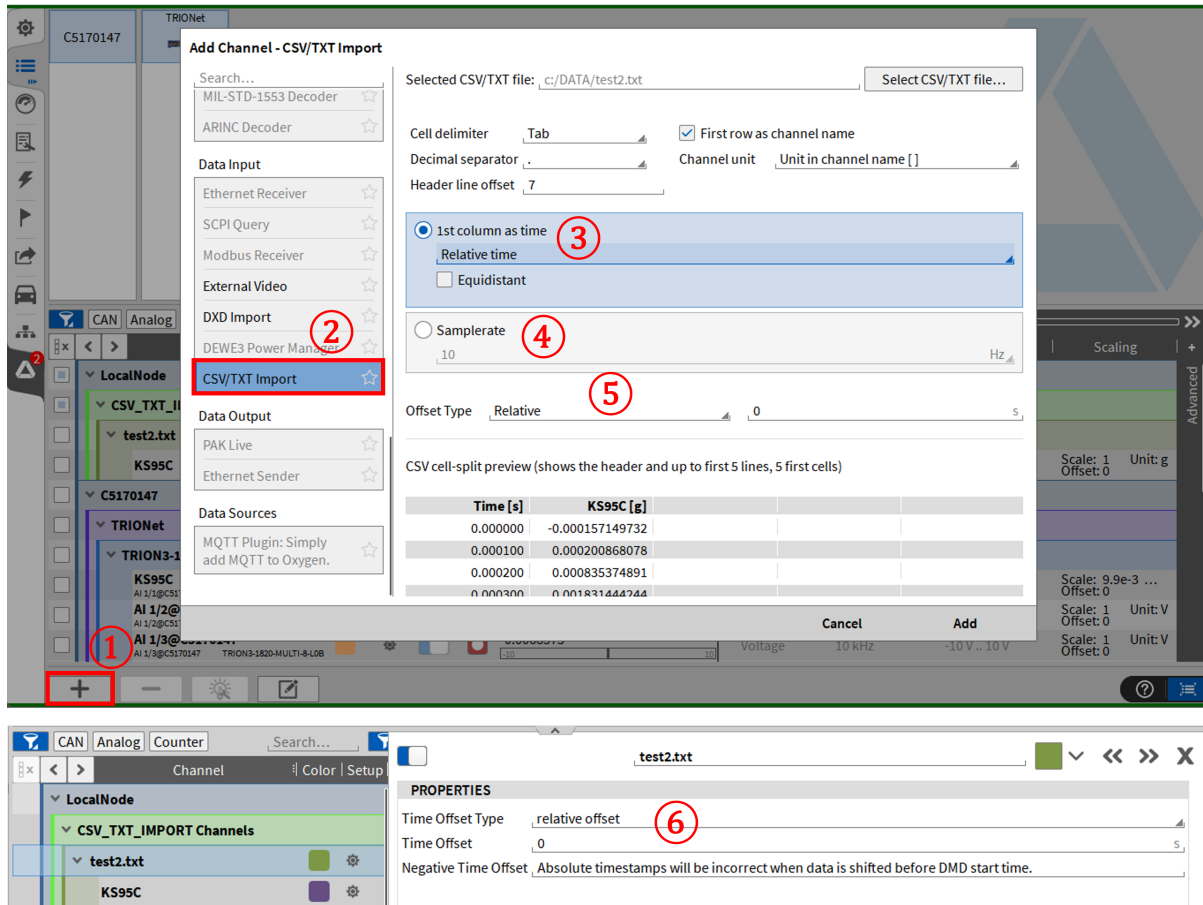

Fig. 7.168: CSV import
In OXYGEN Viewer it is possible to import CSV or TXT data as a channel. This is only available in PLAY mode (see ① in Fig. 7.168). The first column can be interpreted as relative or absolute time (see ③ in Fig. 7.168). The Equidistant option allows asynchronous data to be read in with a virtual sampling rate. In case no time is included a synchronous sample rate can be defined (see ④ in Fig. 7.168). An optional time offset can be defined before adding the channel (see ⑤ in Fig. 7.168) or subsequently in the properties (see ⑥ in Fig. 7.168). The imported channel can be found in the group CSV\_TXT\_IMPORT Channels in the channel list.